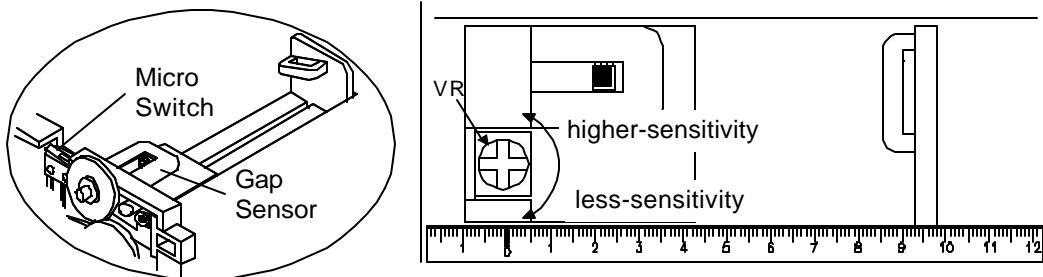

Fig. 3.2.1
4. Overlook the gap sensor (part 27). (see figure 3.2.1)
5. The Variable Resistor (VR) can be adjusted by ways either counter-clockwise for higher transmit power (higher sensitivity) or clockwise for lower transmit power (less sensitivity). Any small amount of adjustment of the Variable resistor has to be verified by pressing the feed button at least 7 times.